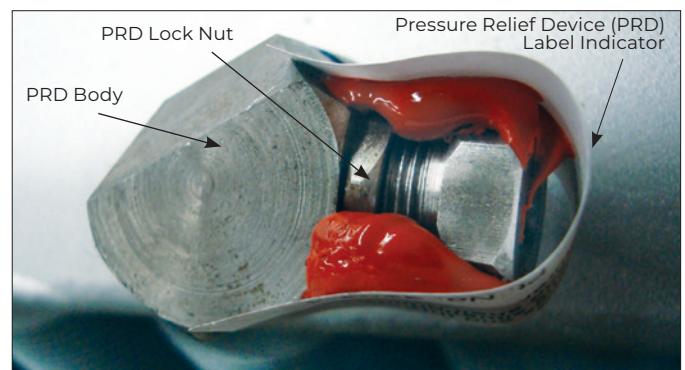

Figure 1
- ☐ Pressure relief device for signs of leakage. See Figure 1, page 5 and refer to A.3 Annual, page 4, for further instructions.
9. Venting pressure of the Pressure Relief Device (PRD) is factory set. Do not tamper with lock nut. (See Figure 1, page 5.)